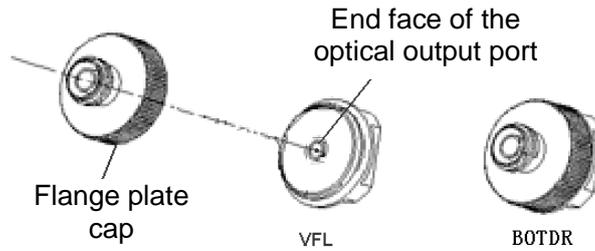

Figure E-2 Pulling out the flange
(4) Steps for cleaning the optical output port and connector
7. Gently pull out the flange, as shown in Figure E-2.